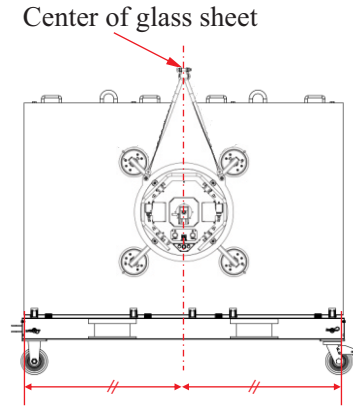

Figure 3.3
- Ensure that the lifer is at the gravity center of the glass (Figure 3.3)